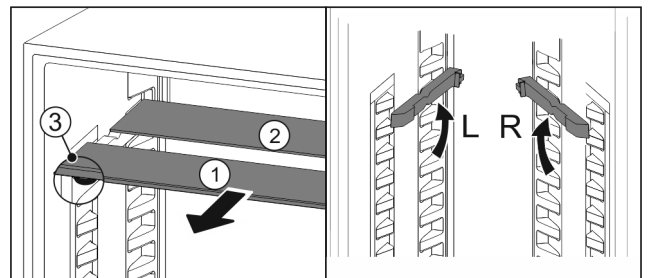

Fig. 130
- Pull the glass panels out Fig. 130 (1) from the front, one at a time.
- The glass panel Fig. 130 (1) with the trim strip is at the front.
- The stops Fig. 130 (3) point downward.